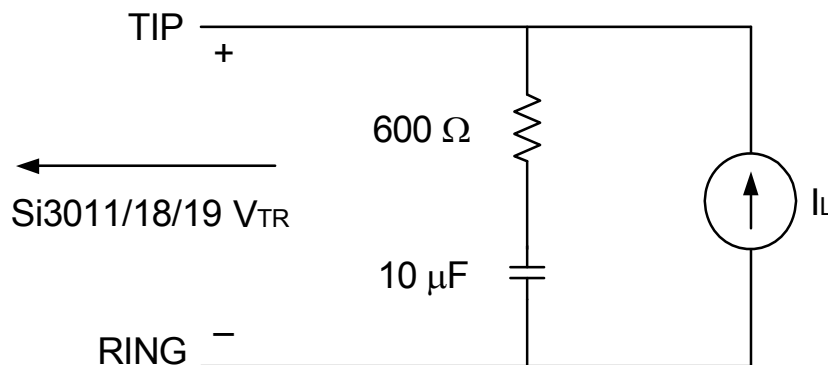

Figure 1. Test Circuit for Loop Characteristics
($V_D = 3.0$ to 3.6 V, $T_A = 0$ to 70 °C, see Figure 1 on page 6)
1. Measured at TIP and RING with 600Ω termination at 1 kHz, as shown in Figure 1 on page 6.